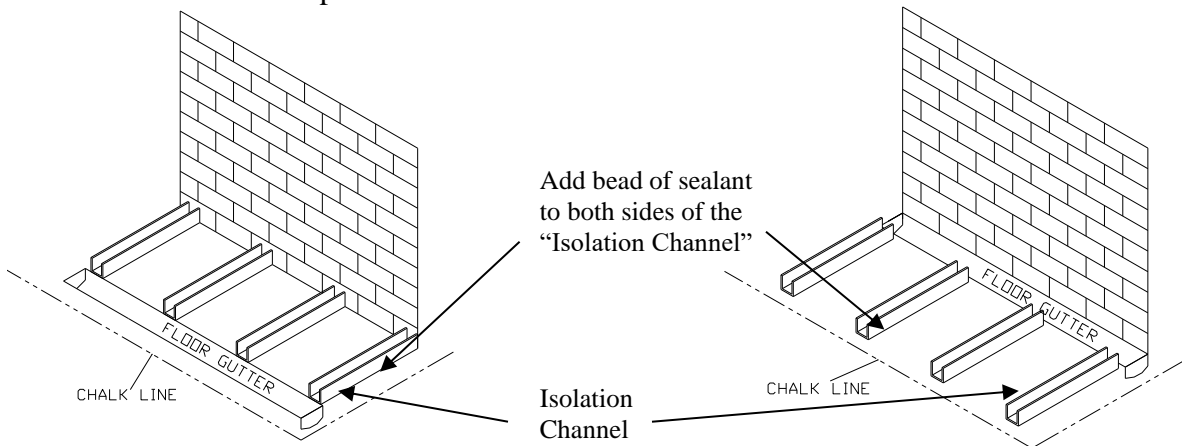

Figure 4
2. Layout the “Sanislope Channel” sections approximately where they will lie on the final floor plan as shown in Figure 4. The edge of the channel should be flush with the floor gutter.